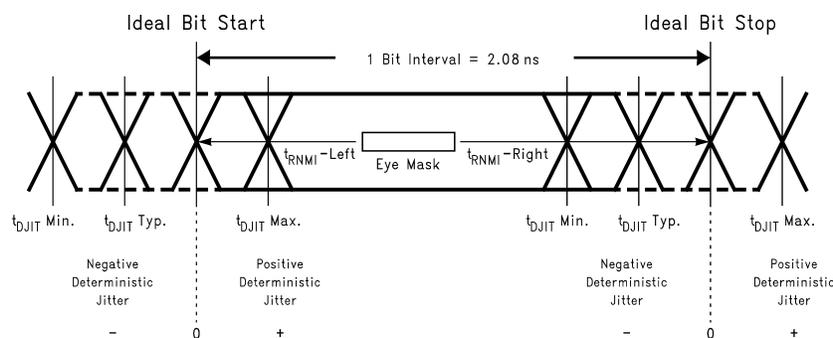

Figure 2. Single BLVDS Data Bit Drawing
Figure 2 shows all parameters involved when isolating a single bit from the data stream. Not all parameters will apply, and in order to determine which parameters will apply, the ideal start and stop bit positions need to be calculated. By determining the ideal bit positions, you can determine if the start and stop positions for the captured signal are early, late, or ideal. For this example, you will use a 40 MHz clock with a period (T) of 25.0 ns. There are a few guidelines to remember when making start and stop bit calculations. For one, all calculations should be made from the first clock (C1) edge. This should be considered time zero for the period. Ideally, each bit is $T/12$ wide, or in this case, $25.0 \text{ ns}/12 = 2.083 \text{ ns}$ wide per bit. The bits start and stop in increments of 2.083 ns from the C1 rising edge. Applying this, you will arrive at Table 1.